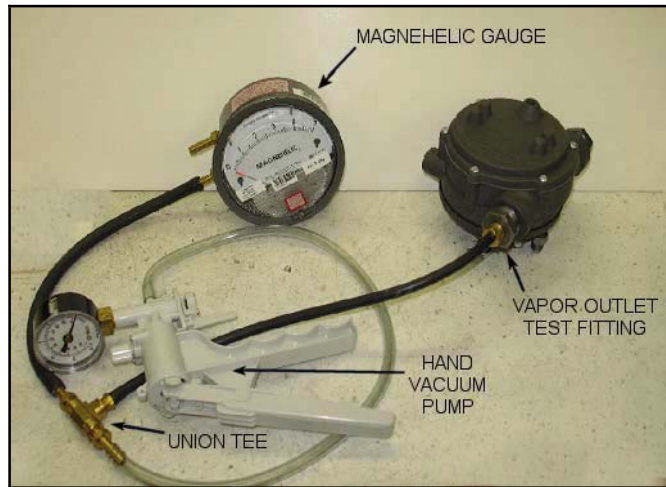

Figure 30. Secondary Stage Test Connection
1. Connect the vacuum pump, the Magnehelic gauge and the regulator vapor outlet to the Union Tee fitting (**Figure 30**). Make sure there is no leakage at any of the fittings.